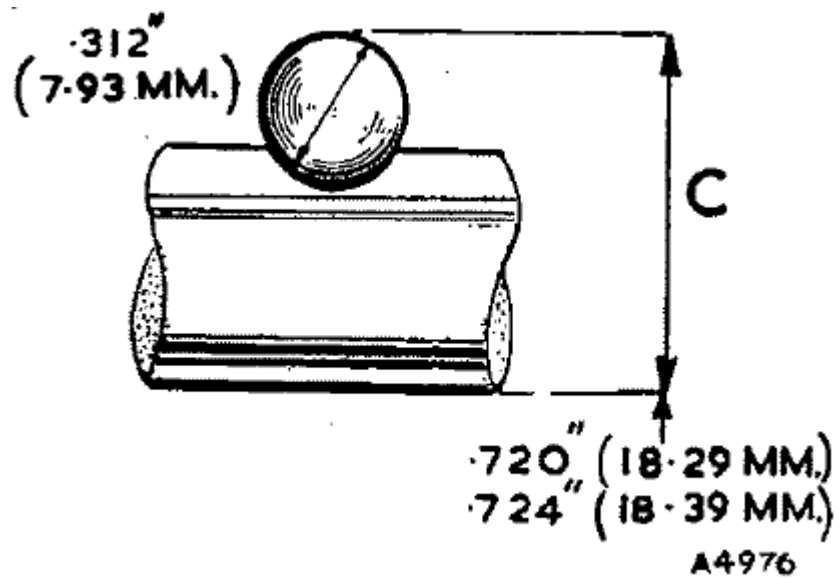

Fig. FF.2 The third and fourth speed fork rod with detent ball placed in a notch for measurement of distance (c)
3. Check the depth of the detent notches in the third and fourth speed selector fork rod. Give particular attention to the third speed notch nearest the centre of the rod. It is not intended that the smaller central (neutral position) notch should be included in this check. Measure the diameter of the detent ball, using a micrometre (Fig. FF.2). Place the ball in each of the deeper notches in turn and measure the distance (C) (Fig. FF.2). If this measurement is greater than 0.724 in. (18.39 mm.) a new fork rod providing dimension (C) in both the third and fourth speed notches should be selected and fitted. The depth of these two detent notches was increased by 0.018 in. (0.46 mm.) on later gearboxes to give the dimension shown in Fig. FF.2.